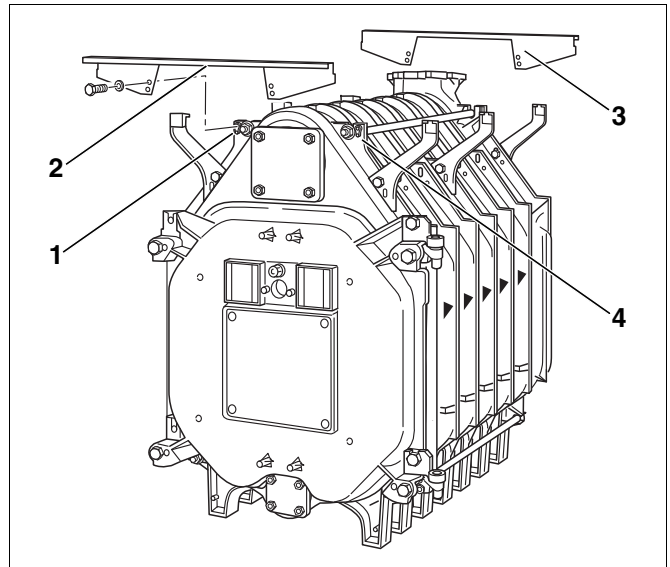

Fig. 37 Fitting the cross bars
- Fasten top front cross bars (Fig. 37, [2]) to the cast lugs (Fig. 37, [1] and [4]) and screw on fingertight with hexagon bolts (M8 × 16). The folded edge on the front bar must face forwards.
- Fasten top rear cross bar (Fig. 37, [3]) onto the cast lugs and screw in place with hexagon bolts (M8 × 16). The folded edge of the rear cross bar must point towards the back.